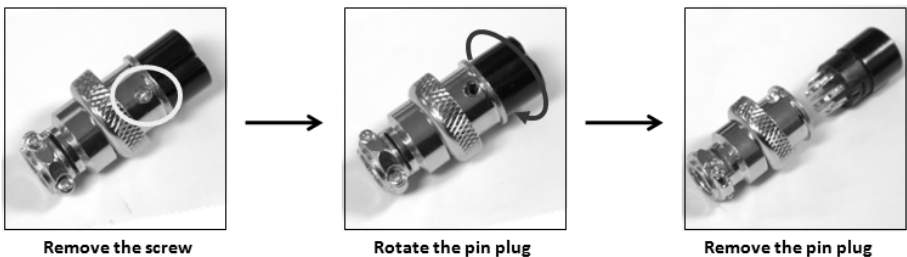

Figure 3 - Remote Control Connector
- (a) Remove the black portion of the remote control connector plug by removing the screw as shown in Figure 3.